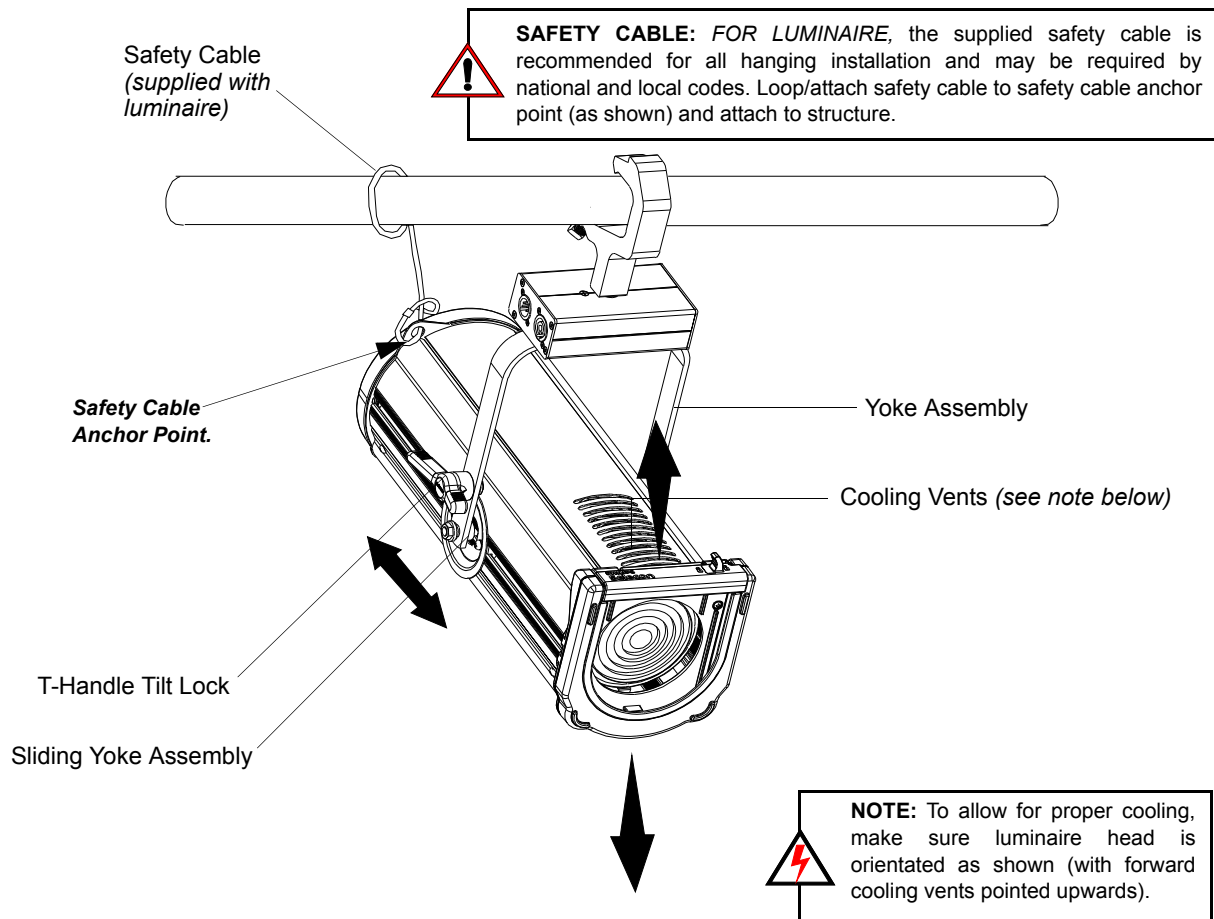

Figure 6: Luminaire Tilt Adjustment
The supplied safety cable **MUST** always be used when rigging luminaires on bars, truss, etc. (as shown in **Figure 6**). The supplied safety cable is recommended for all hanging installation and may be required by national and local
PLFRESNEL1 MKII LED Luminaires offer variable tilt settings. The unit can be set at a specific angle (in relation to its mounting position) or at an angle between 0 to 90 degrees. When the yoke is in the position shown in **Figure 6**, you have full range access to shutters the gate etc. If you flip the yoke over some access is reduced but the over all volume the luminaire takes up is reduced. This is particularly useful in tightly hung lighting positions or in theatres with low grids.
- Step 2. Loosen, but do not remove, T-Handle Tilt Lock at base of yoke assembly as shown in **Figure 6**.